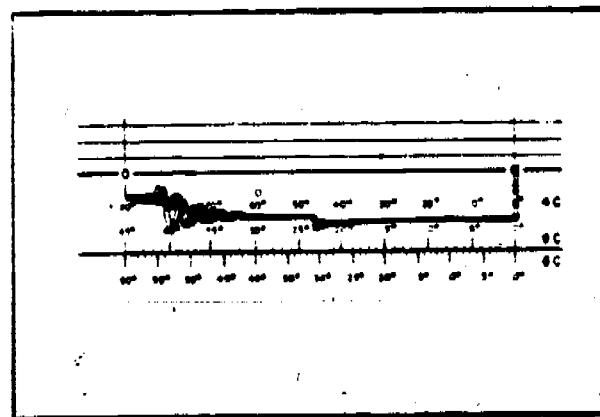

Figure 4-6. Point Close
e. The point close signal indicates degrees of dwell. Be sure to read the proper scale. (See figure 4-6).